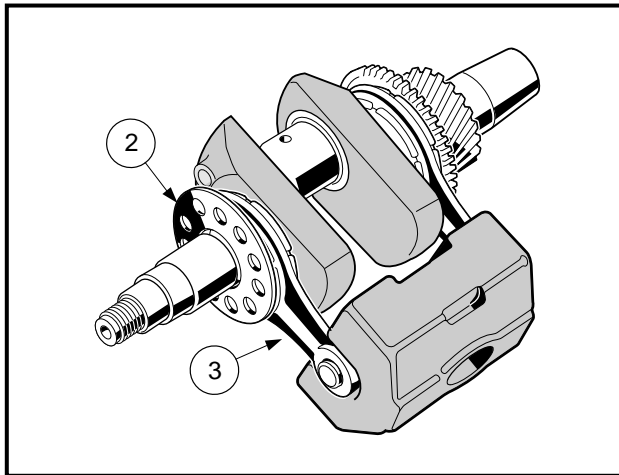

Figure 13-76 Crankshaft and Counterbalance
2. Pull out the crankshaft and the counterbalance together as an assembly (**Figure 13-76, Page 13-36**).
1. Slide the spacer (2) and the link rod (3) off the flywheel end of the crankshaft. Remove the counterbalance from the remaining link rod (**Figure 13-76, Page 13-36**). **Go to Link Rod Inspection, Page 13-36.**